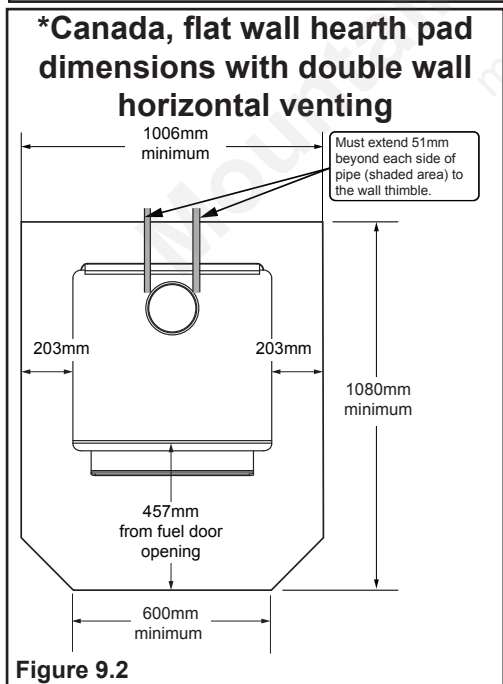

Figure 9.2
**In Canada,** similar floor protection must be provided 18 inches (457mm) in front and 8 inches (203mm) from the sides and rear of the appliance unless the hearth pad is placed against the wall (**Figure 9.2**). Then the clearance may be reduced using double wall pipe and the **Clearance to Combustibles** table listed on page 10.
**\*Exception:** Non-combustible floor protector must extend beneath the flue pipe when installed with horizontal venting and extend 2 inches (51mm) beyond each side; **See Figure 9.2**